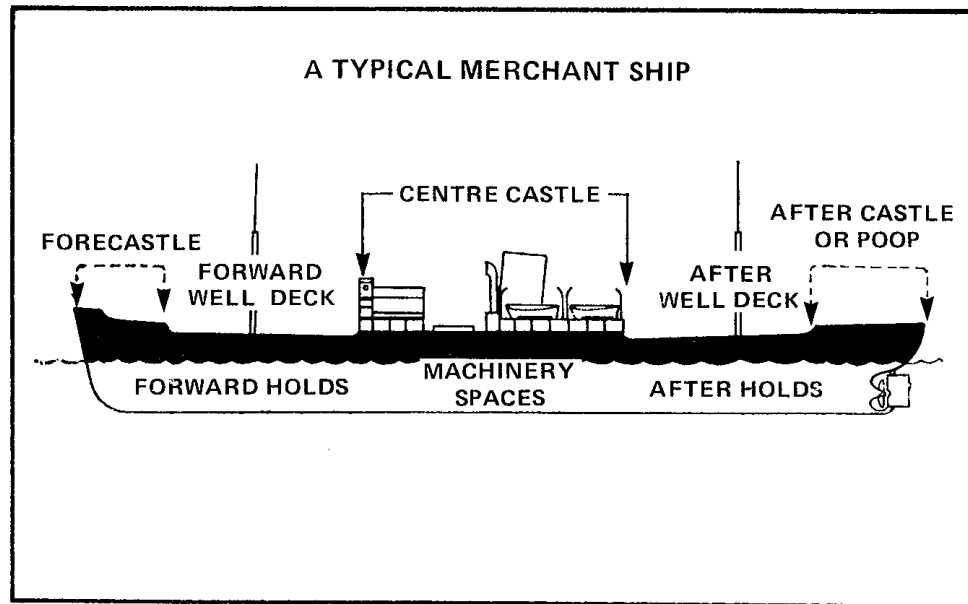

Figure 8-54 A Typical Merchant Ship
8. **A Typical Merchant Ship** -- This is illustrated in Figure 8-54.
- b. **Forecastle** -- The raised part of the hull at the fore end of the merchant ship. (See Figure 8-54.)
- c. **Aftercastle or Poop** -- A raised part of the hull at the after end of a merchant ship. (See Figure 8-54.)
- d. **Centrecastle** -- A raised part of the hull in the centre of a merchant ship. (See Figure 8-54.)
- e. **Well Deck** -- That part of a merchant ship's upper deck between the fore-castle and centrecastle, or the poop and centrecastle. (See Figure 8-54.)